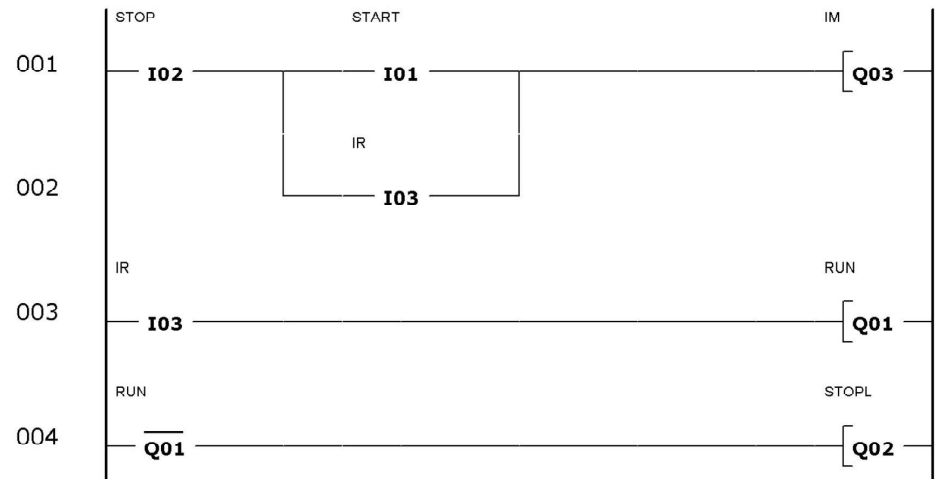
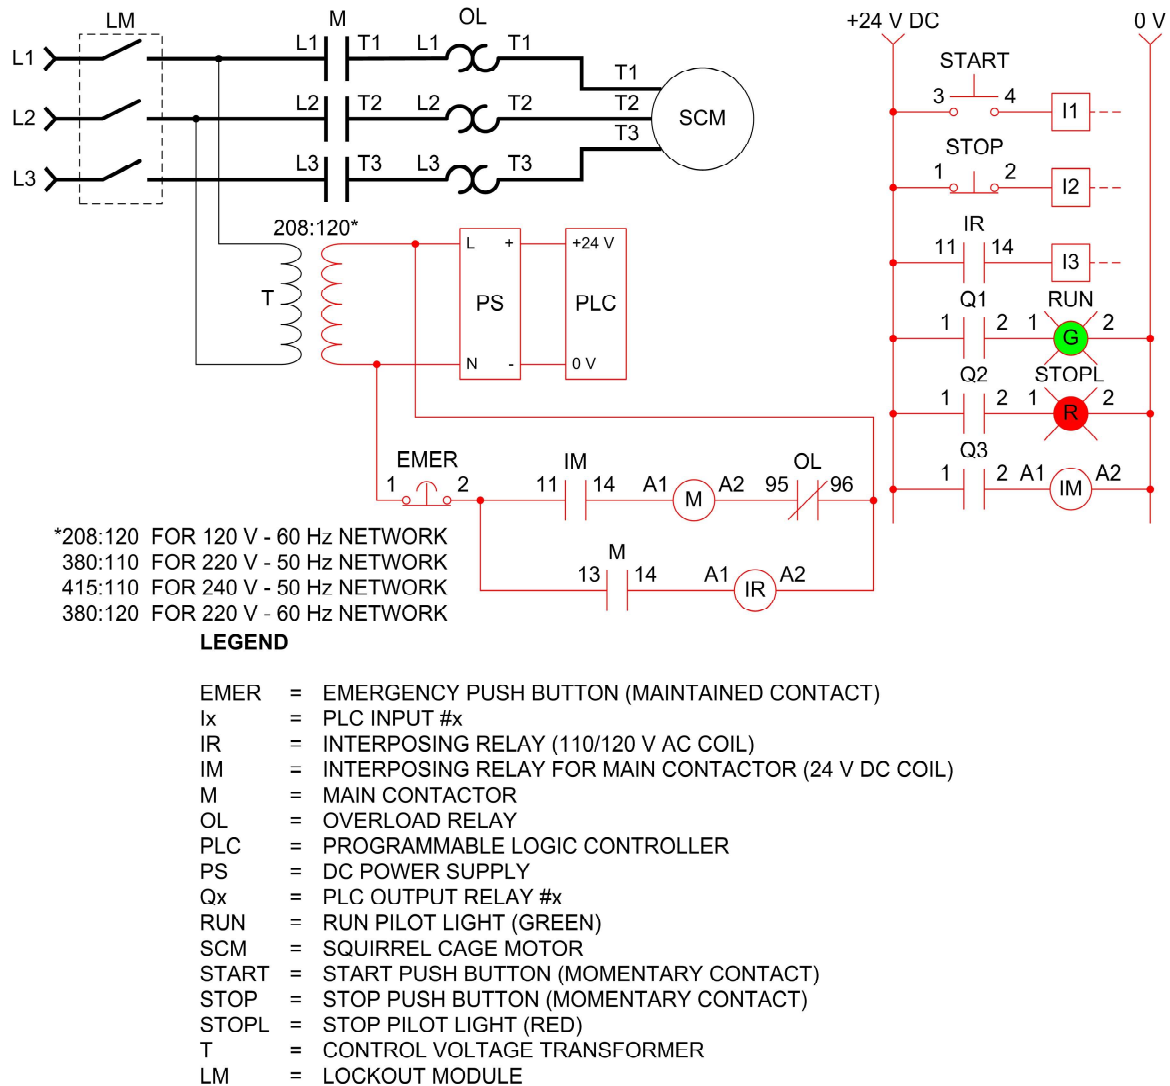

Figure 2-4. Basic motor control ladder program.
Figure 2-5. Basic motor control connection diagrams.
In this exercise, you will set up a basic motor control circuit (Figure 2-5) commanded by DC controls through a PLC.
Enter the program shown in Figure 2-4.
Set up the circuit shown in Figure 2-5.
- ☐ 9. Where does the holding contact in the PLC program of Figure 2-4 come from? Refer to Figure 2-5 if necessary.
- ☐ 14. Explain how the contactor coil (M) is linked to the PLC output Q3. Refer to Figures 2-4 and 2-5 if necessary.
1. In Figure 2-4 ladder program, which contact is part of the motor holding circuit?
3. In the Figure 2-5 connection diagram, which voltage type is connected to the motor terminals?
4. Refer to Figure 2-5. To what device is PLC input I3 directly connected?